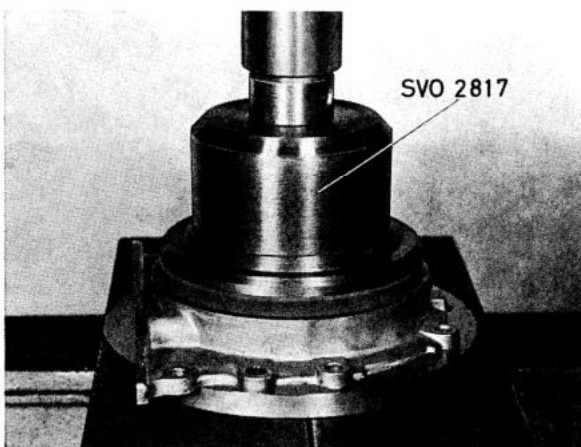

Fig. 2-28. Fitting oil seal
3. Press in the sealing ring with tool SVO 2817, see Fig 2-28.